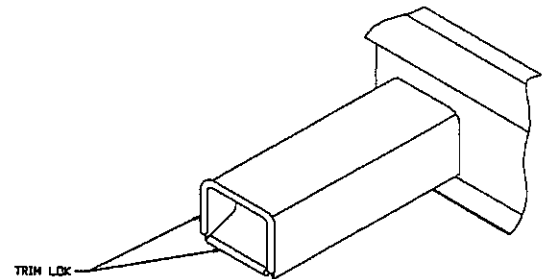

FIG. 4-64 CONTROL PANEL TRIM-LOK
e. Control panel(s) located behind the rear axle on the sub-frame. Install trim-lok on all 4 leading edges. (See FIG. 4-64, next page)